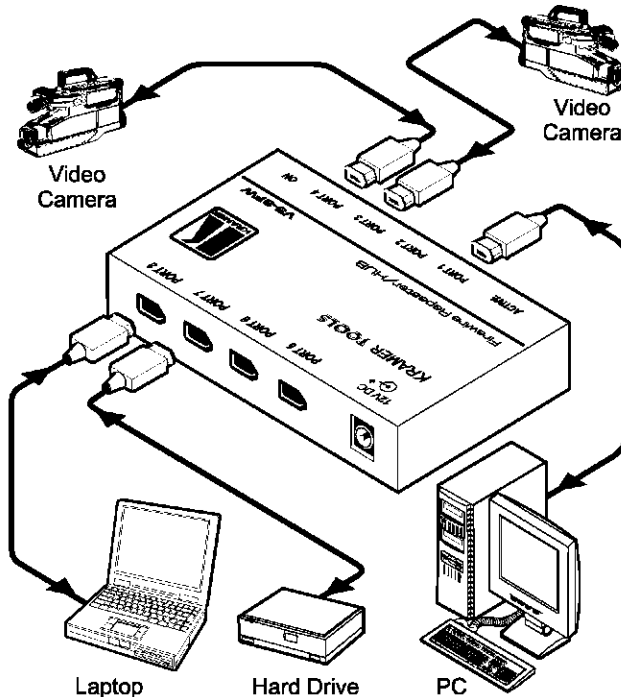

Figure 4: Connecting the VS-8FW FireWire Repeater / HUB
To use the **VS-8FW¹** FireWire Repeater / HUB, as the example in Figure 4 illustrates, do the following²:
2. Connect the 12V DC power adapter to the power socket and connect the adapter to the mains electricity (not shown in Figure 4).